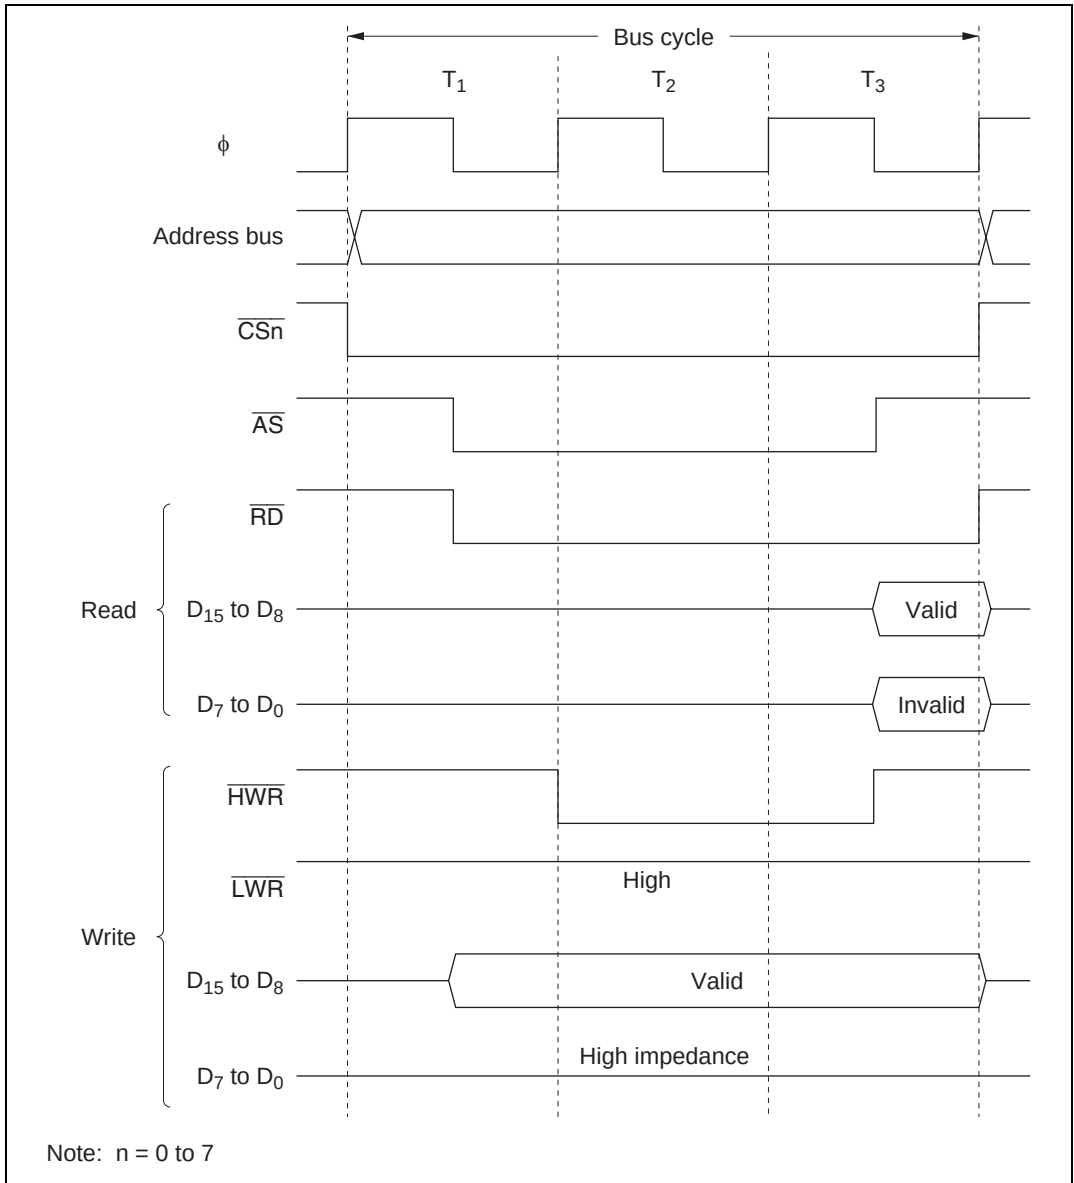

**Figure 6.7 Bus Timing for 8-Bit 3-State Access Space**
**8-Bit 3-State Access Space:** Figure 6.7 shows the bus timing for an 8-bit 3-state access space. When an 8-bit access space is accessed, the upper half ( $D_{15}$  to  $D_8$ ) of the data bus is used.